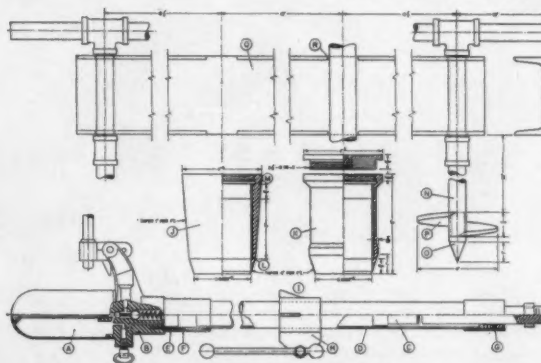

Fig. 2 Construction details of the portable soil sampler
The sampler (Fig. 2) is designed around a 2-ton hydraulic bumper jack, which consists of a fluid reservoir (A), pump (B), tube (not shown), and piston (C). The original jack tube was lengthened by substituting a 5-ft section of 1 1/4-in. galvanized pipe (D). The upper end of the tube (E) was cut and threaded to fit into a 1 1/4-in. pipe coupling (F). The piston bushing (G) at the other end was removed and rethreaded to fit the pipe section.